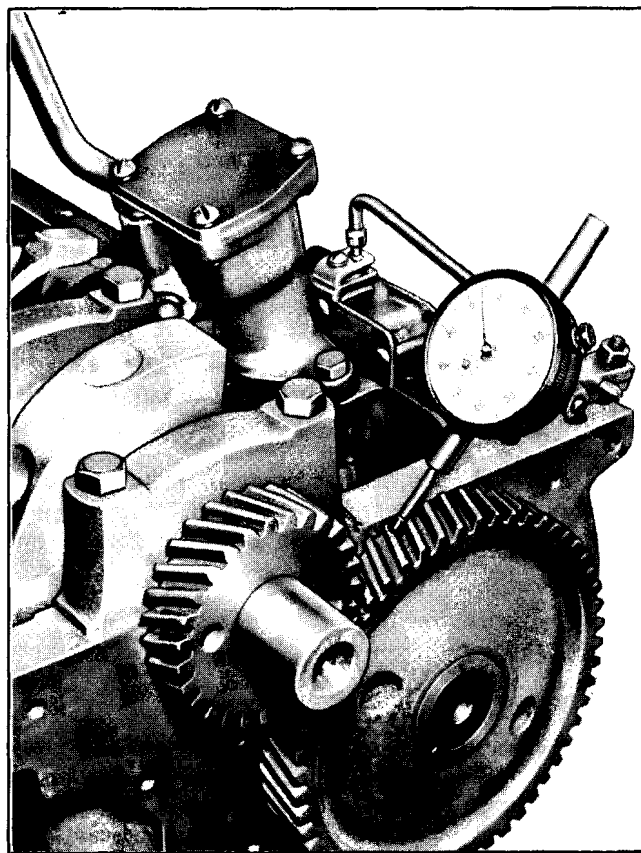

Fig. 6-50 Checking Camshaft Gear Backlash
5. Check the backlash between the timing gear teeth with a dial indicator (Fig. 6-50). The backlash should not be less than .004" nor more than .006".